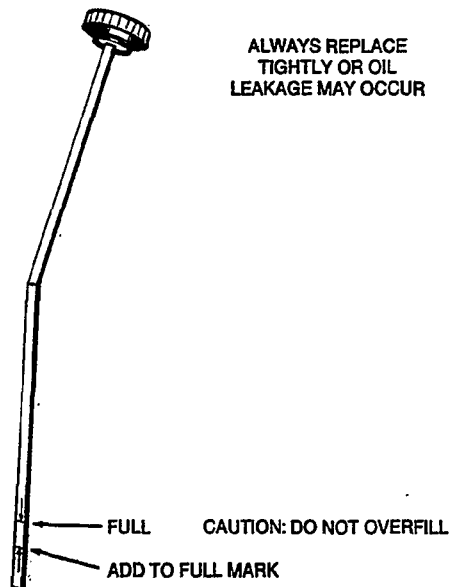

FIGURE 1. CRANKCASE OIL FILL
4. Check crankcase oil level with the engine off. If engine has been run, allow a minimum of 10 minutes for the oil to drain down before checking. If oil level is at or below ADD mark on dipstick (Figure 1), add sufficient oil of the proper viscosity as specified in *ENGINE SET-UP* to bring oil level to the FULL mark. Do not operate engine with oil level below the ADD mark.